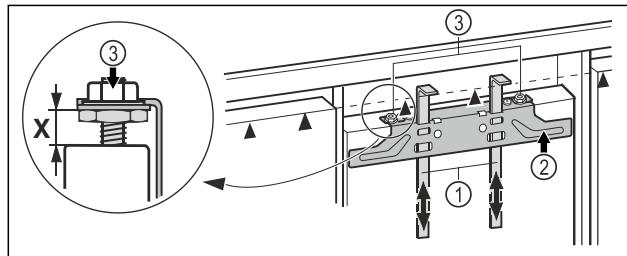

Fig. 39
- Push the assembly aids Fig. 39 (1) up to unit door height. Lower stop edge ▲ of the assembly aid = upper edge of the unit door to be assembled.
- Unscrew the fastening bar Fig. 39 (2) using the lock nuts Fig. 39 (3).